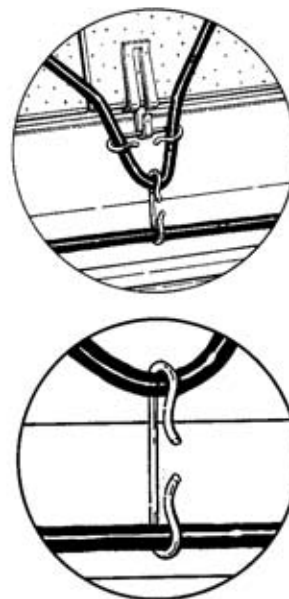

Figure 19. Attaching clips in gutters
- Route the cable in the gutter along a treated area of roofline. Using a spacer, fasten the gutter cable to the bottom of each drip loop you have formed. See Figure 19. Keep the cable in the gutter tight and off the bottom of the gutter to prevent heat loss.